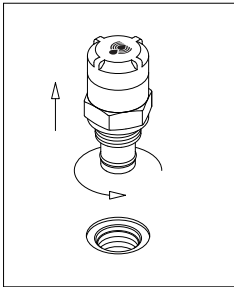

fig. 6
- (Fig. 6) Unscrew the indicator body
- (Fig. 14) Replace the O-Ring of the indicator body. For the mounting/dismounting of the indicator, please refer to the paragraph “Clogging indicator replacement” above (Fig. 6÷7)